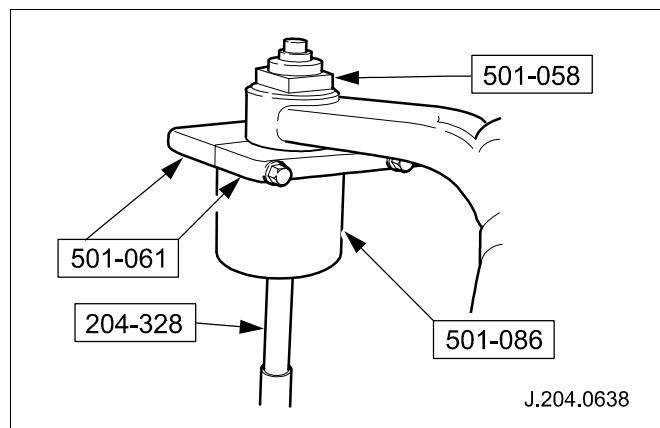

Fig. 1
- 39 Using special tools, remove rear suspension beam front bushings. (See Fig. 1 for tool numbers)